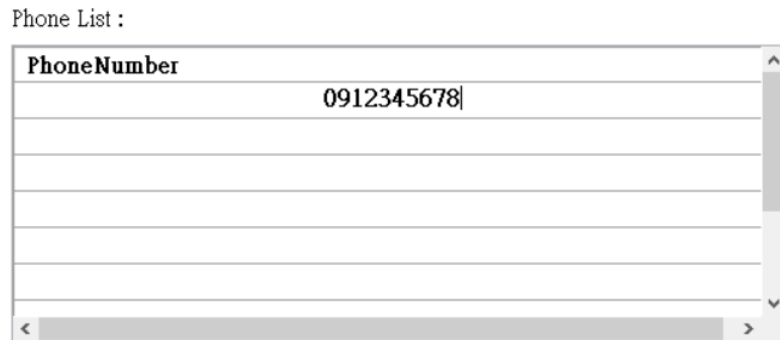

Figure 5.10.9
G. Refill the target phone number, as shown in Figure 5.10.9